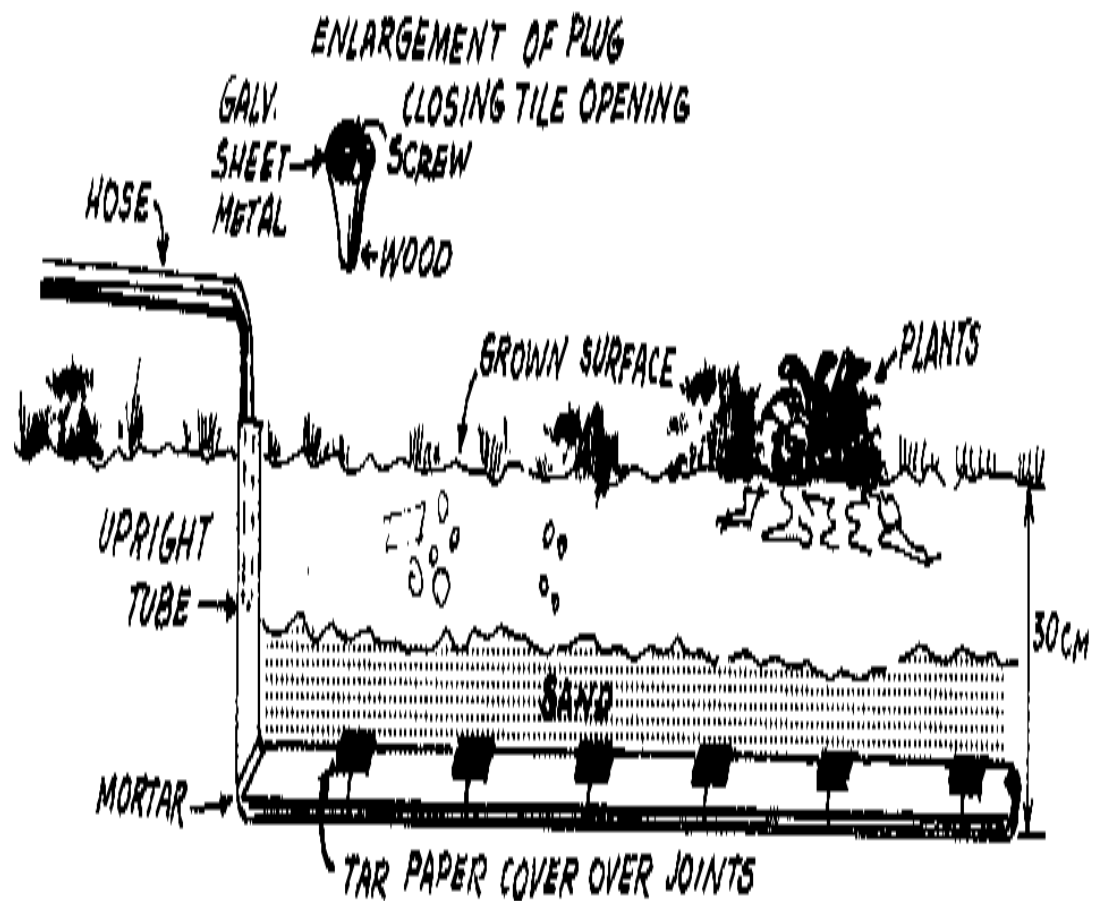

FIGURE 1
- o Put covers over both ends to keep out small animals (see Figure 1).
This all-steel tile-making machine (Figure 1) can be made of scrap metal in any